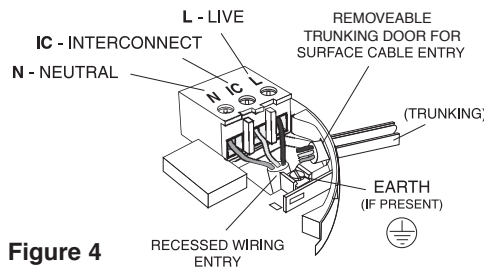

Figure 4
To interconnect the Alarms connect all the IC terminals together as shown in **Figure 4** (see “Interconnecting Alarms” section on page 14).
4. If the mains wires are recessed, bring the wires through the rear hole in the mounting plate as shown in **Figure 4**.
(a) position the mounting plate so the cable trunking is as shown in **Figure 4**.